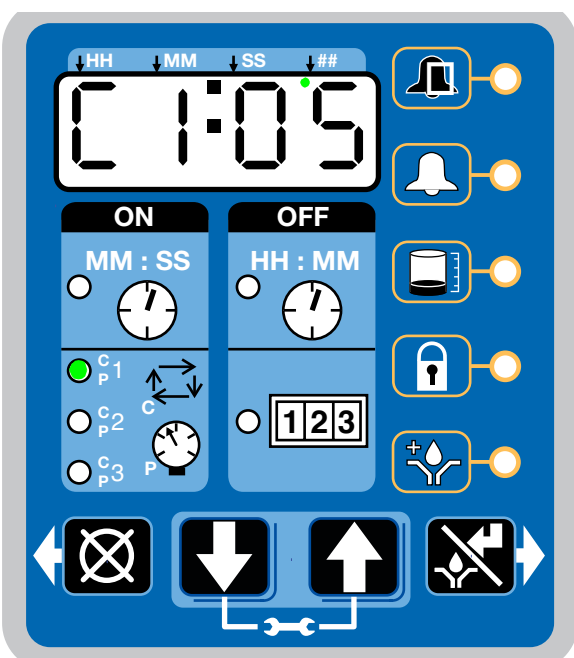

FIG. 49
- The display indicates the sensor (C1, C2, C3) and the remaining cycles for that sensor (FIG. 49).
The example shown in FIG. 49 shows sensor C1 with 5 cycles remaining.